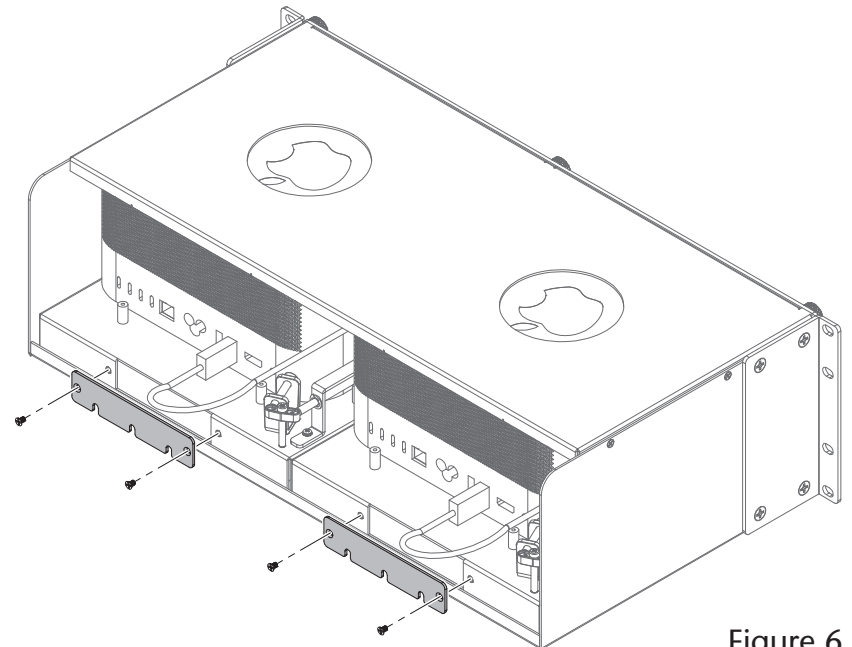

Figure 6
1. Using a Phillips screwdriver, remove the screws securing the accessory space/airflow integrity cover plate(s) to the back of the enclosure, and then set aside the screws and plates (**Figure 6**).